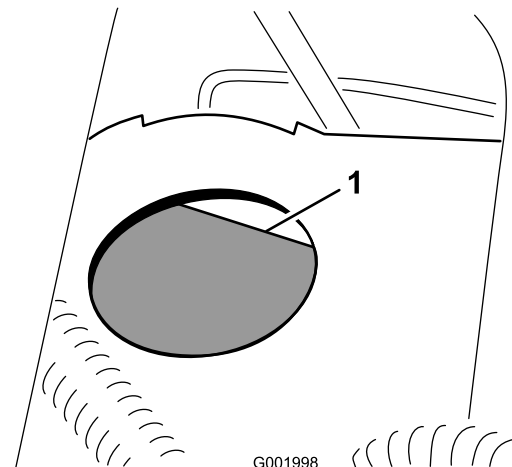

Figure 64
2. The fluid level should be up to the Full line on the reservoir (Figure 64).